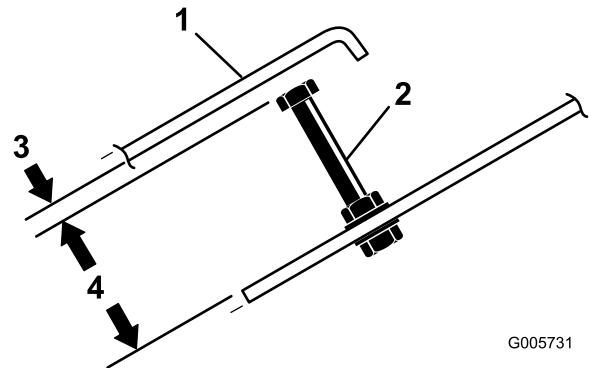

Figure 70
2. Loosen lock nuts and adjust traction pedal stop screw (Figure 70) to a length of 3.00 inches.